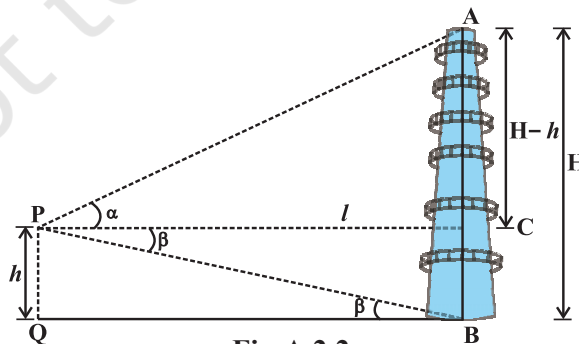

Fig A.2.2
Step 2 Let AB be the given tower (Fig A.2.2). Let PQ be an observer measuring the height of the tower with his eye at P . Let $PQ = h$ and let height of tower be H . Let α be the angle of elevation from the eye of the observer to the top of the tower.